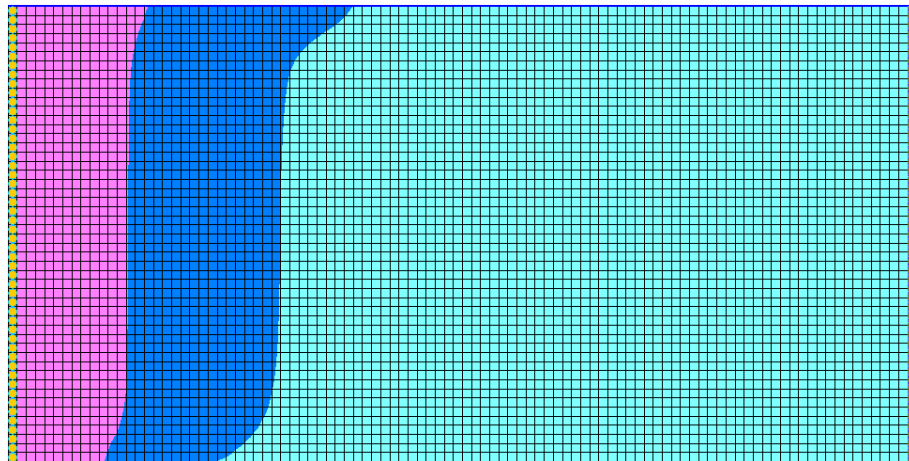

Figure 7 Select the rightmost column of cells in the model
1. Using the **Select Cells**  tool, drag a box around all the cells in the rightmost column (Figure 7).